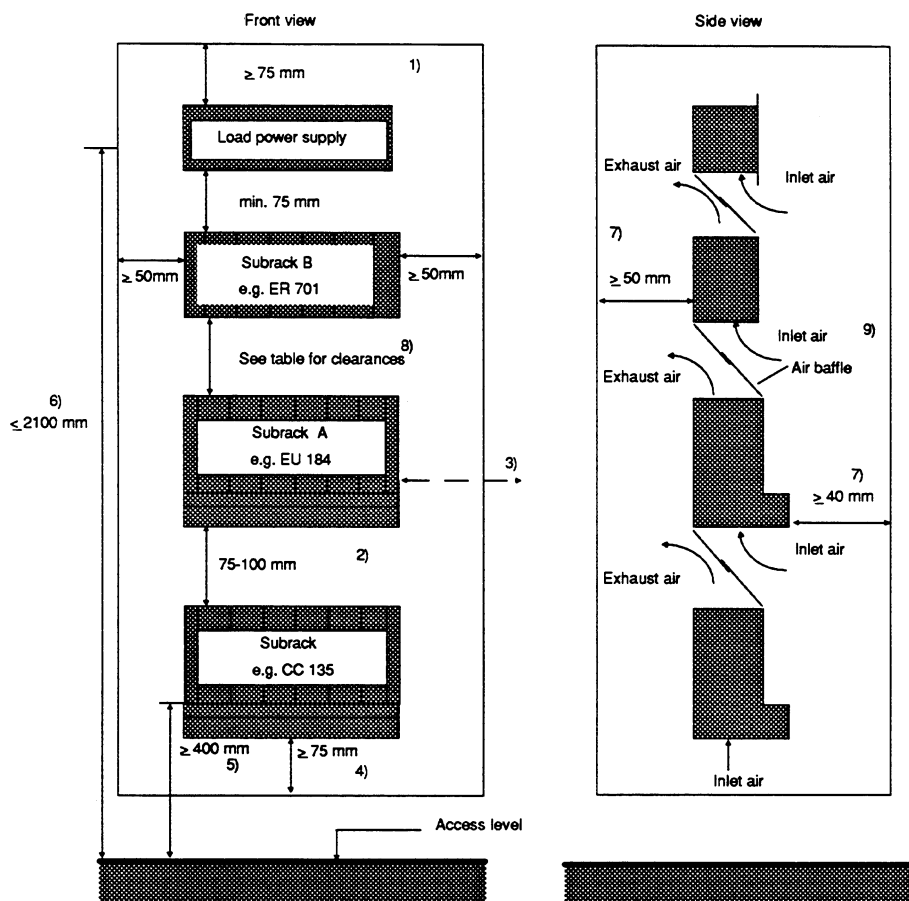

Fig. 2 Installation dimensions for SIMATIC controllers in cabinet
- As a result of the required spacing between devices and the maximum permissible installation height for control elements, a maximum of three U-type devices can be arranged one above the other (see Fig. 2).
1) See Fig. 2, Installation dimensions for SIMATIC controllers in cabinet
Fig. 3 shows the permissible ambient temperature of a cabinet with dimensions of 600 mm x 600 mm x 2200 mm depending on the power loss. The values indicated only apply to the arrangement of units in the cabinet as shown in Fig. 2. You can obtain more information from Catalogs NV21 and ET1.